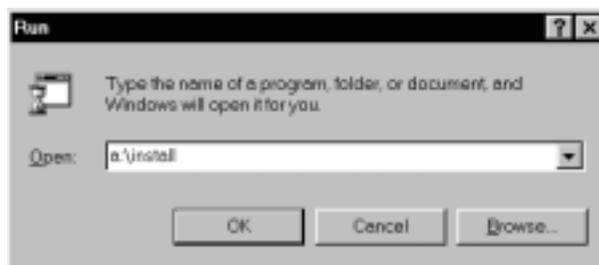

Figure 2-4. Run dialog box.
3. Select **Run** from the **File** menu in the **Program Manager**, enter **a:\install** (or **b:\install**) in the **Command Line** (Figure 2-4), then click **OK**.